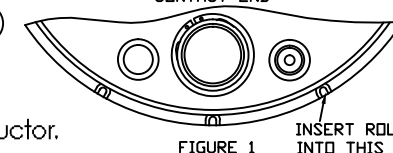

FIGURE 1
- Solder attach the phase conductors into the phase contacts (75) using (preferably) 50-50 solder. **DO NOT** cool the contact with water as this may cause a cold solder joint (high resistance).
- Solder attach the ground lead into the ground contact (77).
- Strip 1/2" (13cm) of insulation from the ground check conductor and solder attach it to the solder pot (39)
- On all three phases and the one ground contact, install the plated steel retaining rings (90) into the groove closest to the conductor, then insert the o-rings (29) into the second wider groove.
- Slide the insulator over the phase contacts and thread the nuts (76) onto the contacts. Next insert the ground contact (77) into the insulator plate and install the stainless steel retaining ring (32).
- Slide the heat shrink tubing (38) over the ground check conductor, then while holding the solder pot in place, turn the ground check contact (42) from the front side, threading it into the solder pot until the brass nut (40) is finger tight against the solder pot. Then tighten the nut (40) with a wrench while holding the solder pot with pliers.
- Make sure while installing the insulator assembly into the socket body, that the 1/8" roll pin in the socket body is aligned with the slot in the insulator plate as shown in figure 1.